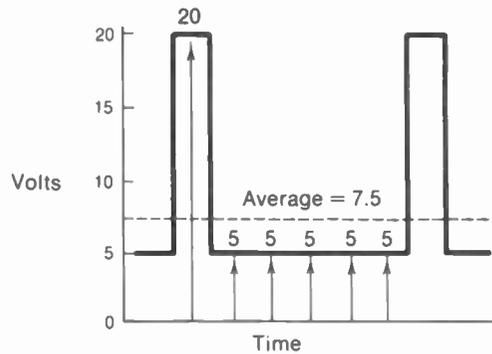

FIGURE 14-6 AVERAGE VALUE OF A FLUCTUATING DC VOLTAGE.
some dc level. In Fig. 14-6, as an example, if we add the five values of 5 V each and the 20-V value, the sum is 45 V. The instantaneous dc values are taken from the zero base line. This sum
5. If you measure the waveshape in Fig. 14-6 with a dc voltmeter, it will read 7.5 V.
6. Redraw the waveshape in Fig. 14-6 with different amplitudes and show the new average value.
1. If the waveshape in Fig. 14-6 has a peak value of 30 V and minimum of 6 V, how much will this average value be?